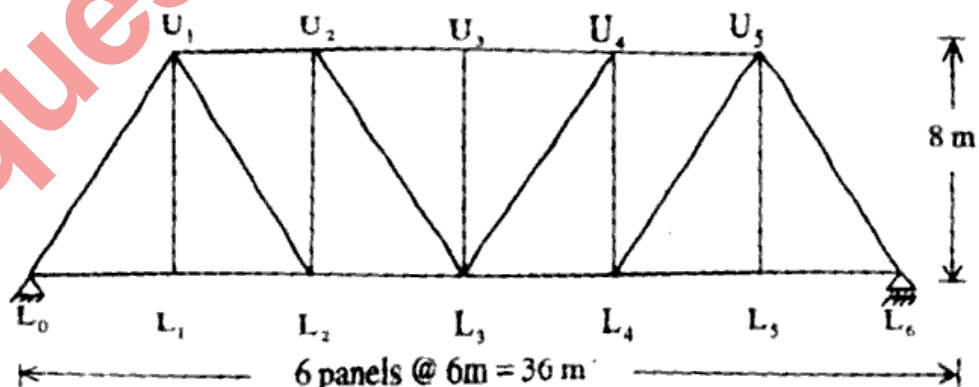

Fig. 1
- (b) A pratt truss as shown in fig.1 is to be used as one of the two main girders of a single track bridge carrying rolling loads on stringers which in turn are carried by cross - girders connected to the nodes of the trusses. The truss centre lines are 6 m apart while a pair of stringers divide this distance into three equal parts of 2 m each. The following additional data is given: [14]